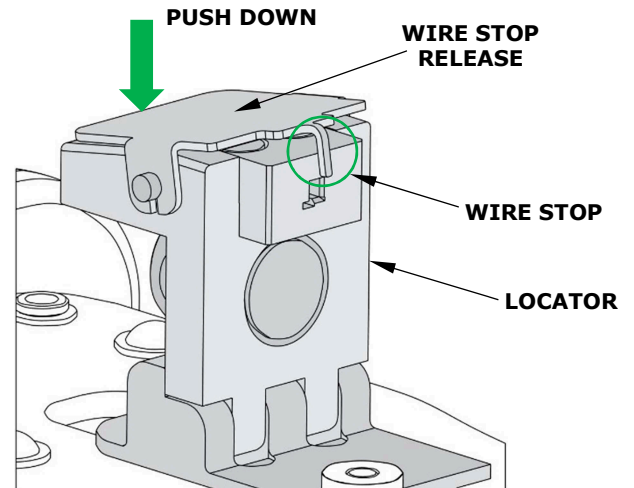

Figure 6
2. Push down on the wire stop release to raise the wire stop. See Figure 6. Insert the terminal into the profile until the terminal is fully seated and stops.